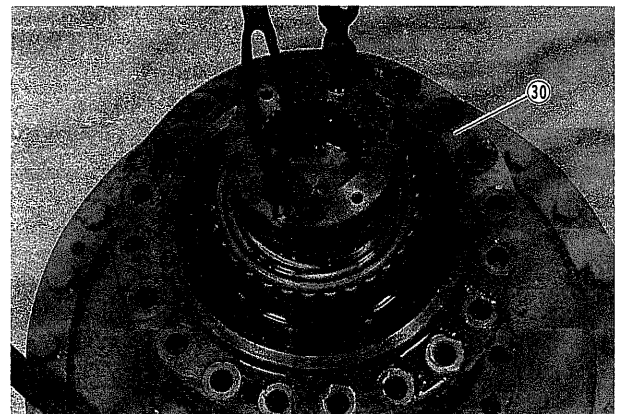

Fig. 77
- 1) SV91T, SV91D & SV91DP . . . . . Remove bolts (17) and pull off boss (30). (Fig. 73, Fig. 77)
- 2) SV91 . . . . . Remove bolts (17) and pull of axle shaft (55).